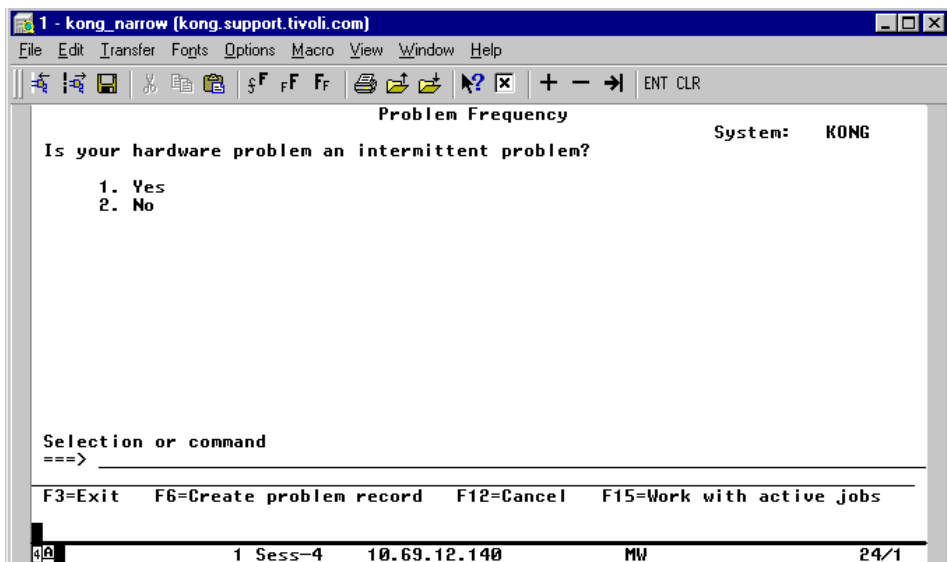

Figure 182. ANZPRB: Problem Frequency
- c. On this panel, select option **3**, as shown, and press **Enter**. This will bring up the Problem Frequency panel shown in Figure 182.